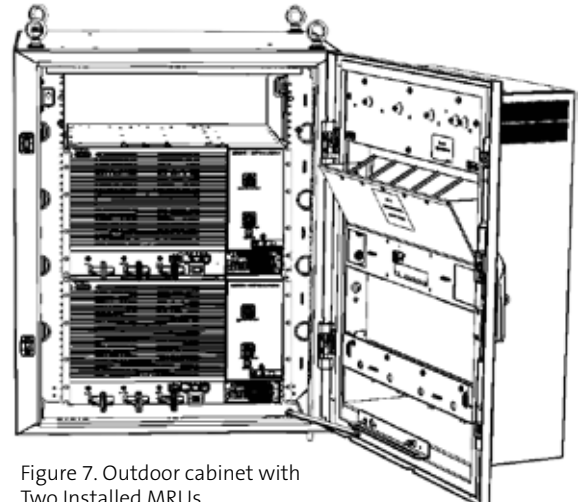

Figure 7. Outdoor cabinet with Two Installed MRUs
Step 5: Perform Steps 2 - 4 for the second MRU, positioning it above the first installed unit, as shown in Figure 7.